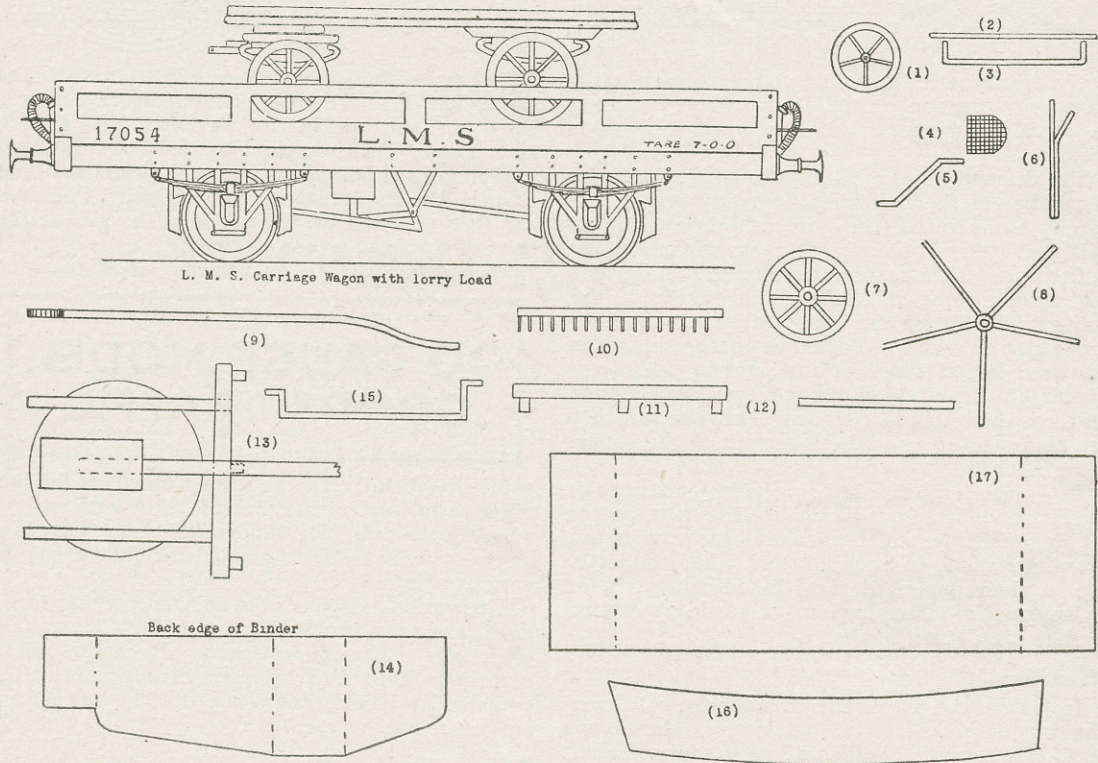

Fig. 2—Full size details for implement loads
The drawing (Fig. 2) shows the detailed parts for a number of the implements already mentioned. Briefly enumerated, they are as follows: (1) an L.M.C. O-gauge brake wheel, (2) an axle and (3) an underbearer for a reaping machine, (4) a driver's seat for the same vehicle or for a binder, (5) the support of wire for the seat, (6) the control lever for binder or reaper, soldered on at the side, (7) a prepared wagon wheel as used on one side of the binder, (8) the arms of the rotators for a binder. Of these there should be a couple of sets, and they are made from a gig wheel, certain of the spokes being removed.